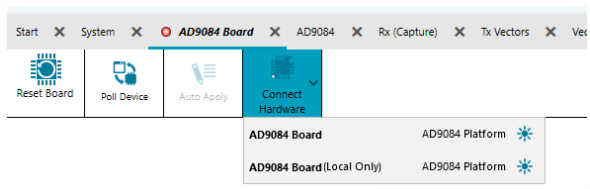

Figure 12. ACE Connect Hardware
- ▶ The hardware must be reconnected in the **ACE Software** within the **Connect Hardware** drop-down menu (see Figure 12). Do not use the **AD9084 Board (Local Only)** setting because it is in hardware emulation mode where the **ACE Software** does not communicate with the actual hardware. Use the **AD9084 Board** setting instead.